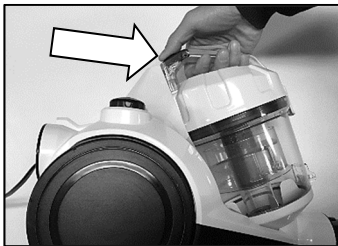

Fig 8
1. As shown on Fig.8, hold the dust chamber and handle and push the release button.